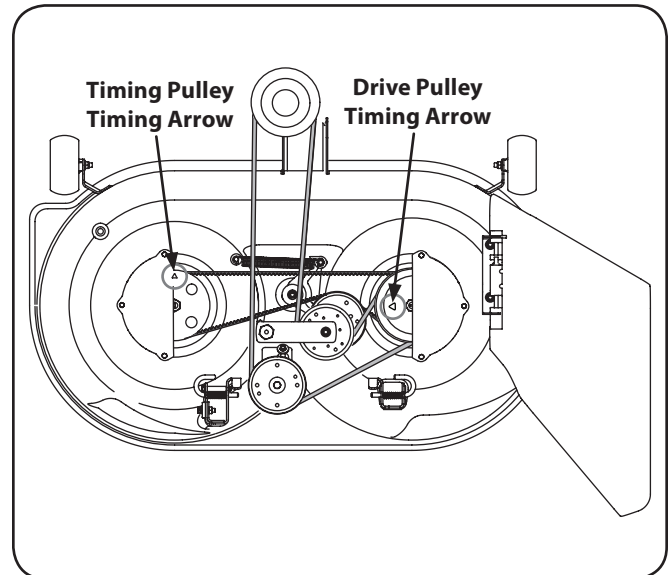

**Figure 7-5**
3. Remove the hex screw, flat washer, lock washer, shoulder spacer, and flange lock nut that make up the idler bracket backstop. See Fig. 7-5.
**NOTE:** It may be necessary to clean the underside of the mowing deck to access the hex screw. Refer to Fig. 7-5.
4. Applying force to either the timing belt idler pulley or the timing belt idler bracket, pivot and hold the idler bracket against the spring tension just far enough to allow lifting the timing belt off and above the idler pulley. Carefully release the idler bracket. See Fig. 7-5.
6. Repeat the above procedure to remove the belt from the left hand spindle assembly timing pulley. Refer to Fig. 7-5.
7. Loop the new timing belt and maneuver the belt between the drive pulley on top of the right hand spindle assembly and the spindle cover. Lower the belt until loosely around the right hand timing pulley. Refer to Figure 7-5.
1. Remove the deck from the tractor. Remove the idler bracket backstop. Refer to Figure 7-5.